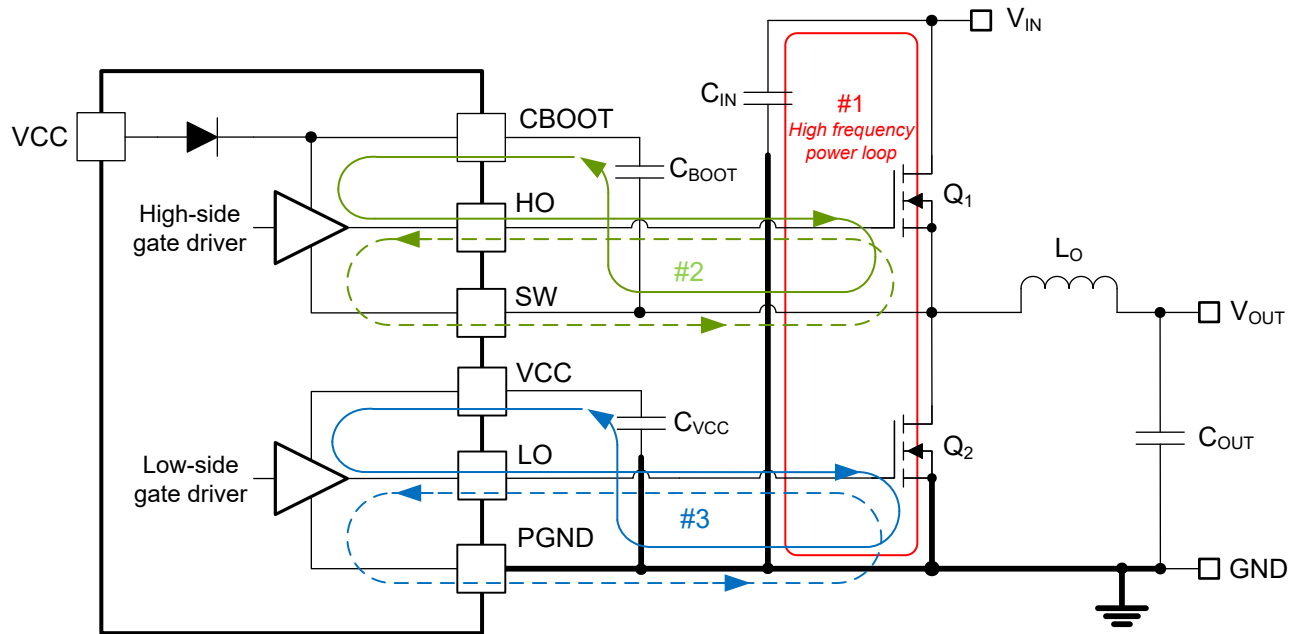

Figure 8-29. DC/DC Regulator Ground System With Power Stage and Gate Drive Circuit Switching Loops
Proper PCB design and layout is important in a high-current, fast-switching circuit (with high current and voltage slew rates) to achieve a robust and reliable design. As expected, certain issues must be considered before designing a PCB layout using the LM5137-Q1. The high-frequency power loop of a buck regulator power stage is denoted by loop 1 in the shaded area of Figure 8-29. The topological architecture of a buck regulator means that particularly high di/dt current flows in the components of loop 1, and reducing the parasitic inductance of this loop by minimizing the effective loop area becomes mandatory. Also important are the gate drive loops of the high-side and low-side MOSFETs, denoted by 2 and 3, respectively, in Figure 8-29.
- Loop 1: The most important loop area to minimize is the path from the input capacitor or capacitors through the high- and low-side MOSFETs, and back to the capacitor or capacitors through the ground connection. Connect the input capacitor or capacitors negative terminal close to the source of the low-side MOSFET (at ground). Similarly, connect the input capacitor or capacitors positive terminal close to the drain of the high-side MOSFET (at V_{IN}). Refer to "loop 1" in Figure 8-29.
5. The SW pin connects to the switch node of the power conversion stage and acts as the return path for the high-side gate driver. The parasitic inductance inherent to loop 1 in Figure 8-29 and the output capacitance (C_{OSS}) of both power MOSFETs form a resonant circuit that induces high frequency (greater than 50MHz) ringing at the SW node. The voltage peak of this ringing, if not controlled, can be significantly higher than the input voltage. Make sure that the peak ringing amplitude does not exceed the absolute maximum rating limit for the SW pin. In many cases, a series resistor and capacitor snubber network connected from the SW node to GND damps the ringing and decreases the peak amplitude. Provide provisions for snubber network components in the PCB layout. If testing reveals that the ringing amplitude at the SW pin is excessive, then include snubber components as needed.
- Loop 2: high-side MOSFET, Q_1 . During the high-side MOSFET turn-on, high current flows from the bootstrap (boot) capacitor through the gate driver and high-side MOSFET, and back to the negative terminal of the boot capacitor through the SW connection. Conversely, to turn off the high-side MOSFET, high current flows from the gate of the high-side MOSFET through the gate driver and SW, and back to the source of the high-side MOSFET through the SW trace. Refer to "loop 2" of Figure 8-29.
- Loop 3: low-side MOSFET, Q_2 . During the low-side MOSFET turn-on, high current flows from the VCC decoupling capacitor through the gate driver and low-side MOSFET, and back to the negative terminal of the capacitor through ground. Conversely, to turn off the low-side MOSFET, high current flows from the gate of the low-side MOSFET through the gate driver and GND, and back to the source of the low-side MOSFET through ground. Refer to "loop 3" of Figure 8-29.